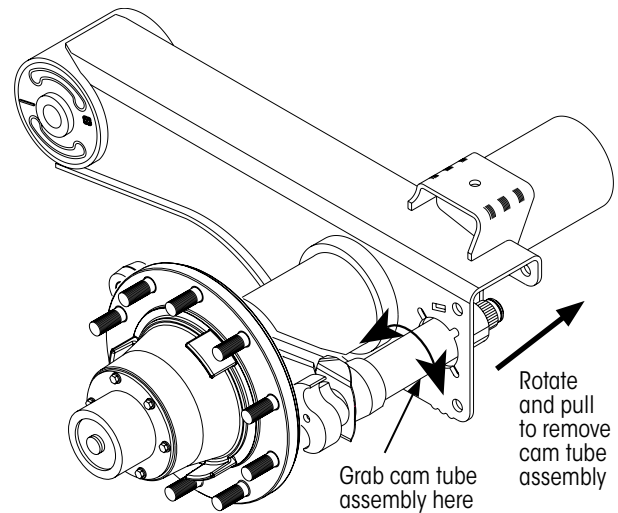

Figure 20: Cam tube assembly removal
3. **Pull** the cam tube assembly free from the spider (use a back-and-forth rotating motion) and **slide** it out through the mounting hole in the suspension beam (Figure 20).